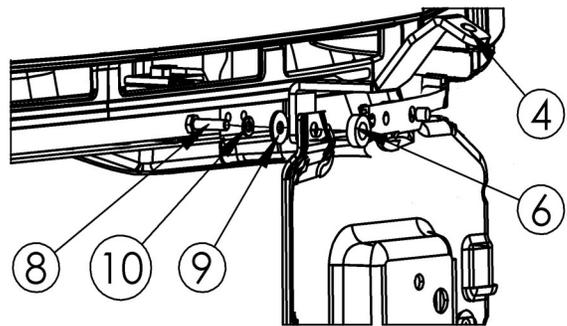

Fig. 13
5. Remove the factory bumper bolt see **Figures 11 & 12**. Loosely secure one end of the upper support strap to the vehicle, using the supplied M8 hardware, to the location of the removed factory bolt. Tighten and torque to 15 ft-lbs. See **Figure 13**. (**Note:** Removal of intercooler bolt and prying of intercooler may be required to fit the M8 hardware.)